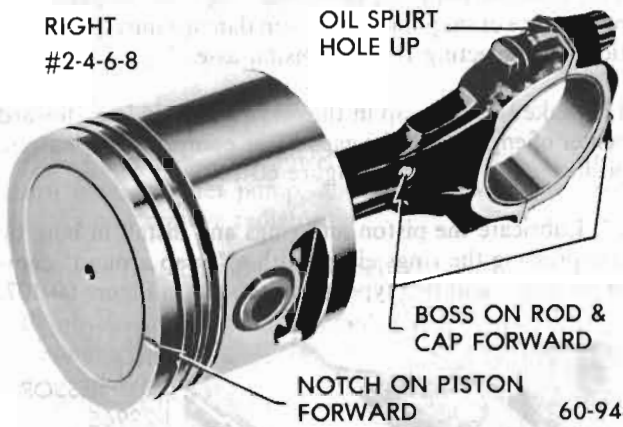

Figure 60-102 - Right Bank Piston and Rod Assembly (455 cu.in. Engines)
3. If the piston and rod assembly is to be installed in the right bank, the assembly must be made as shown in Figures 60-102 and 60-103.